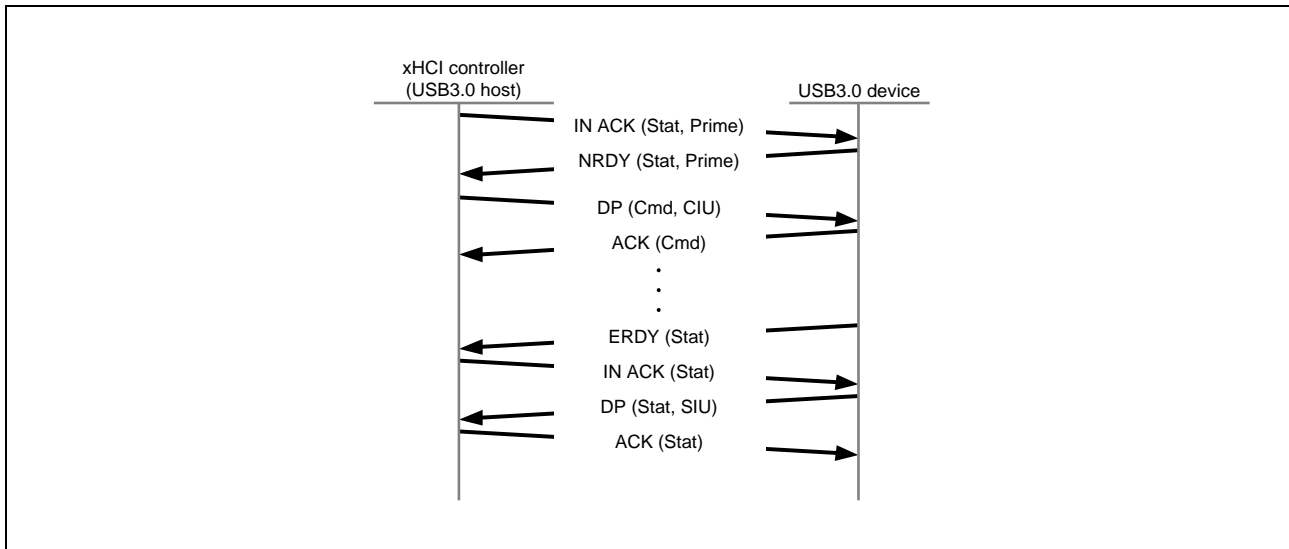

Figure 26.6-34 Example SuperSpeed UASP Non-Data Transfer
**Figure 26.6-34** shows the part between USB3.1 host and USB3.1 device of Figure 6 in UASP specification Rev.1.0. The example is called as “Non-Data Transfer” but the status PIPE is working as the Stream bulk IN PIPE.